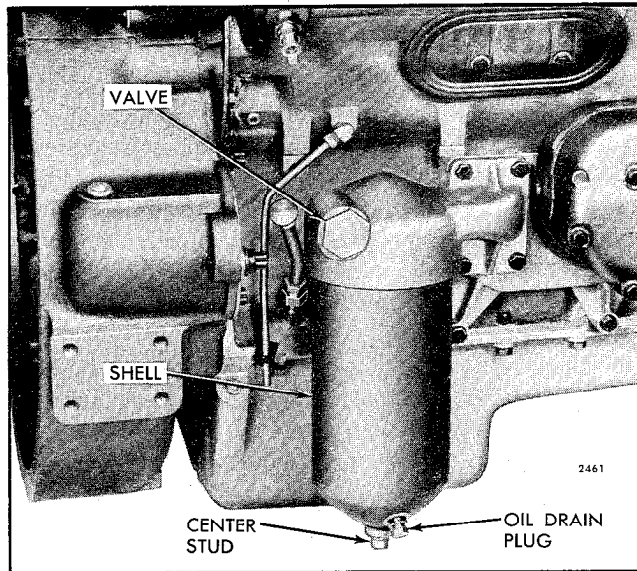

Fig. 18 - Typical Full-Flow Filter Mounting
type oil filter may also be installed. The full-flow filter assembly can be remotely mounted or mounted on the engine as shown in Fig. 18. A by-pass valve, which opens at 15 psi (103 kPa), is located in the filter base to ensure engine lubrication in the event the filter should become plugged.
1. Remove the drain plug and drain the oil (Fig. 18).